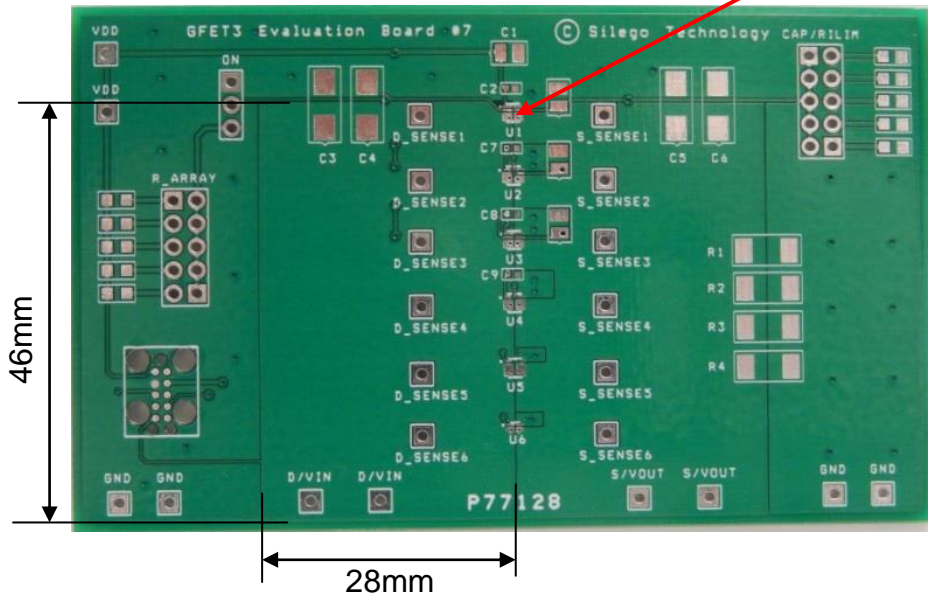

Figure 3. SLG59M308V Evaluation Test Board
2.3. The D/VIN and S/VOUT pins carry significant current. Please note how the D/VIN and S/VOUT pads are placed directly on the power planes in Figure 3, which minimizes the $R_{ds(ON)}$ associated with long, narrow traces. The D/VIN, S/VOUT and GND pins dissipate most of the heat generated during high-load current condition. The layout shown in Figure 3 is illustrating a proper solution for heat to transfer as efficiently as possible out of the device.